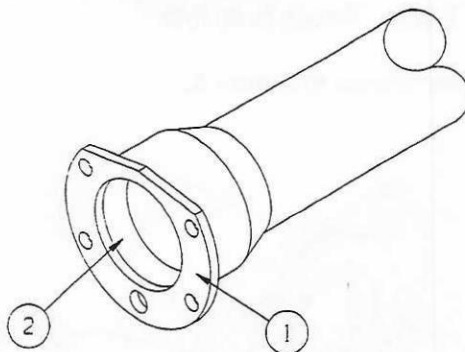

Figure 3. Axle housing end.
1. Remove dirt, grease, oil and old sealing material from backing plate, axle housing flange (Figure 3, Flag 1) and bore of the housing end (Figure 3, Flag 2).